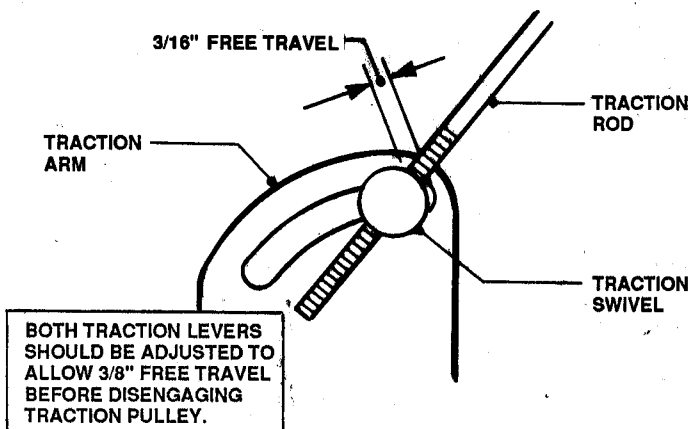

FIGURE 32
3. Both TRACTION LEVERS should be adjusted to allow 3/16" free travel, before disengaging traction pulley. See Figure 32.